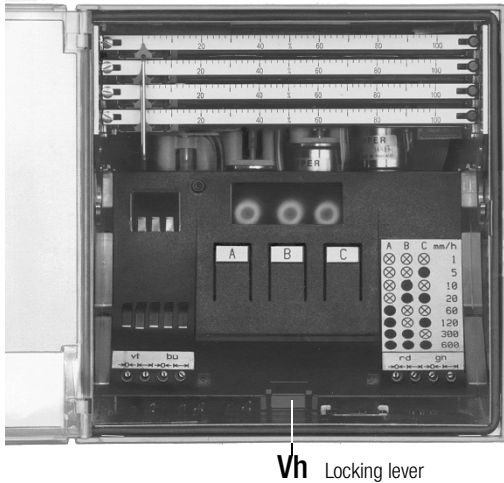
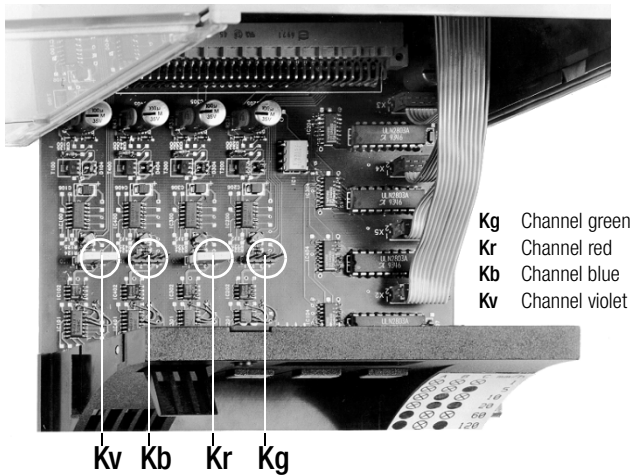

Figure 14
Figure 15 Electronic unit withdrawn
3.1.1 Hardware matching by means of jumpers (see Figure 14 and Figure 15)
- Lift locking lever **Vh** (see Figure 14) and withdraw the module simultaneously.
- Withdraw the electronic unit to such an extent that the jumpers are easily accessible (see Figure 15).